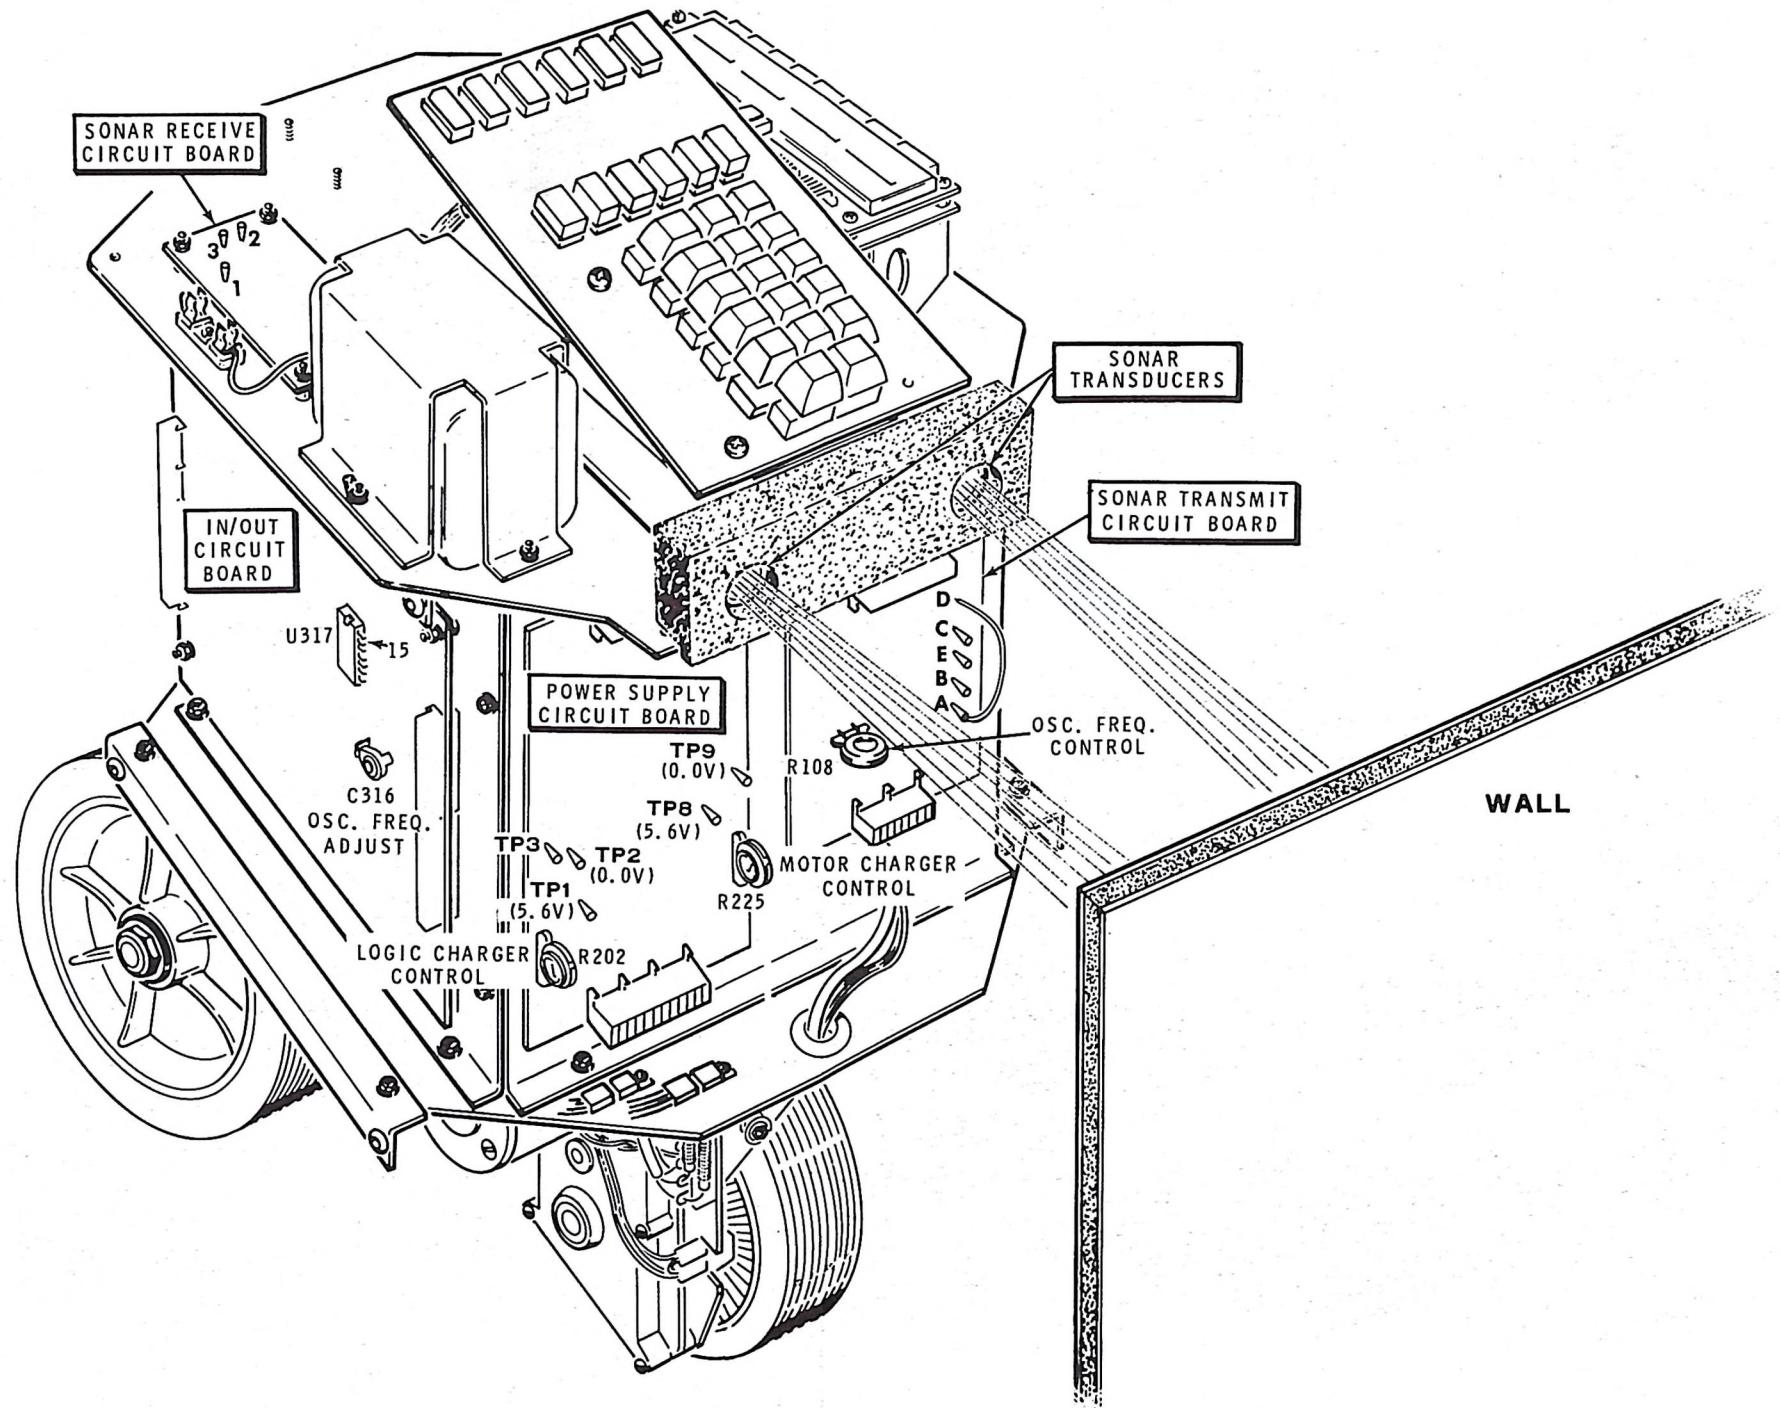

FIGURE 9
Locations of the two adjustments on the power supply circuit board are shown in Figure 9, (fold-out from Page 46) along with the test points used. You will need a high impedance voltmeter to make these adjustments.
To make this adjustment, you must connect an oscilloscope or AC voltmeter to TP1 on the sonar receive circuit board and make the adjustment on the sonar transmit circuit board. Refer to Figure 9 (fold-out from Page 46) for the location of the test points and adjustments.
1. Refer to Figure 9 (fold-out from Page 44) and connect your frequency counter to pin 15 of integrated circuit U317 on the I/O circuit board.
1. Preset Freq Adj capacitor C316 with its slot horizontal as shown in Figure 9.